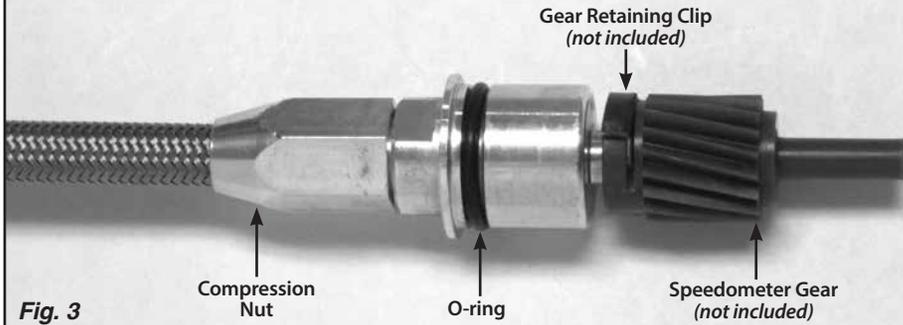

Fig. 3
**Step 5:** Install the provided o-ring into the groove on the trans end fitting. Install the inner wire into the cable housing with the square end towards the transmission. Install your original speedometer gear (not included) and gear retaining clip (not included) onto the trans end fitting, with the lip on the retaining clip pointing away from the transmission. **Fig. 3** Make sure the speedometer gear spins freely. Push the inner wire fully into the speedometer gear, twisting it as you go. When the inner wire is seated in the speedometer gear, the gear will turn if you twist the inner wire at the speedometer end.